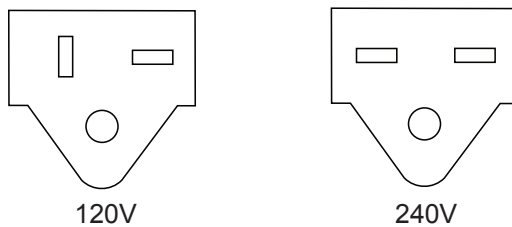

Fig. 2-11, Line Cord Plugs
3. Connect the correct power cord to the Power Supply (see Fig. 2-11)